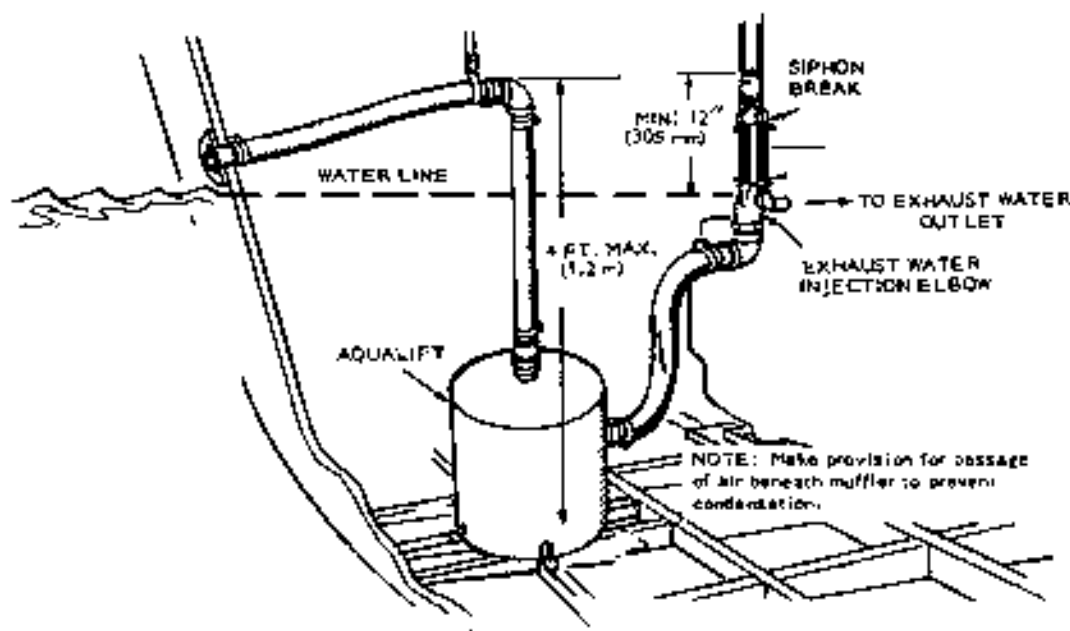

FIGURE 6-43. AQUALIFT INSTALLATION WITH SIPHON BREAK.
3. Connect exhaust water discharge hose between engine water outlet (raw water, aqualift, or heat exchanger) and siphon break inlet elbow, Figure 6-43. Turn elbow or replace with straight fitting to prevent crimps in hose.